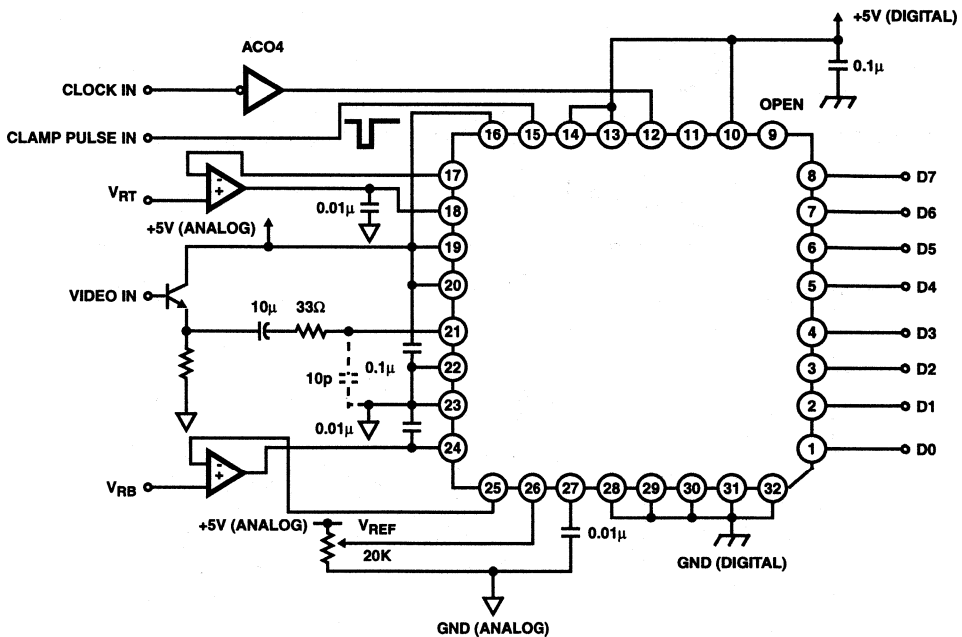

FIGURE 10. WHEN CLAMP IS USED (SELF-BIAS NOT USED)
- The HI2302 is a two-step parallel system A/D converter featuring a 4-bit upper comparator block and two lower comparator blocks of 4-bit each. The reference voltage that is equal to the voltage between $V_{RT} - V_{RB}/16$ is constantly applied to the upper 4-bit comparator block. Voltage that corresponded to the upper data is fed through the reference supply to the lower 4-bit comparator block. Voltage that corresponded to the upper data is fed through the reference supply to the lower 4-bit comparator block. V_{RTS} and V_{RBS} pins serve for the self generation of V_{RT} (reference voltage top) and V_{RB} (reference voltage bottom), and they are also used as the sense pins as shown in the Application Circuit examples Figures 10 and 11.
- The operation of respective parts is as indicated in the Timing Chart II. For instance, input voltage V_I (1) is sampled with the falling edge of the external clock (1) by means of the upper comparator block and the lower comparator A block. The upper comparator block finalizes comparison data MD (1) with the rising edge of the external clock (2). Simultaneously the reference supply generates the lower reference voltage V_R (1) that corresponded to the upper results. The lower comparator A Block finalizes comparison data LD (1) with the rising edge of the external clock (3). MD (1) and LD (1) are combined and output as Out (1) with the rising edge of the external clock (4). Accordingly there is a 2.5 clock delay from the analog input sampling point to the digital data output.